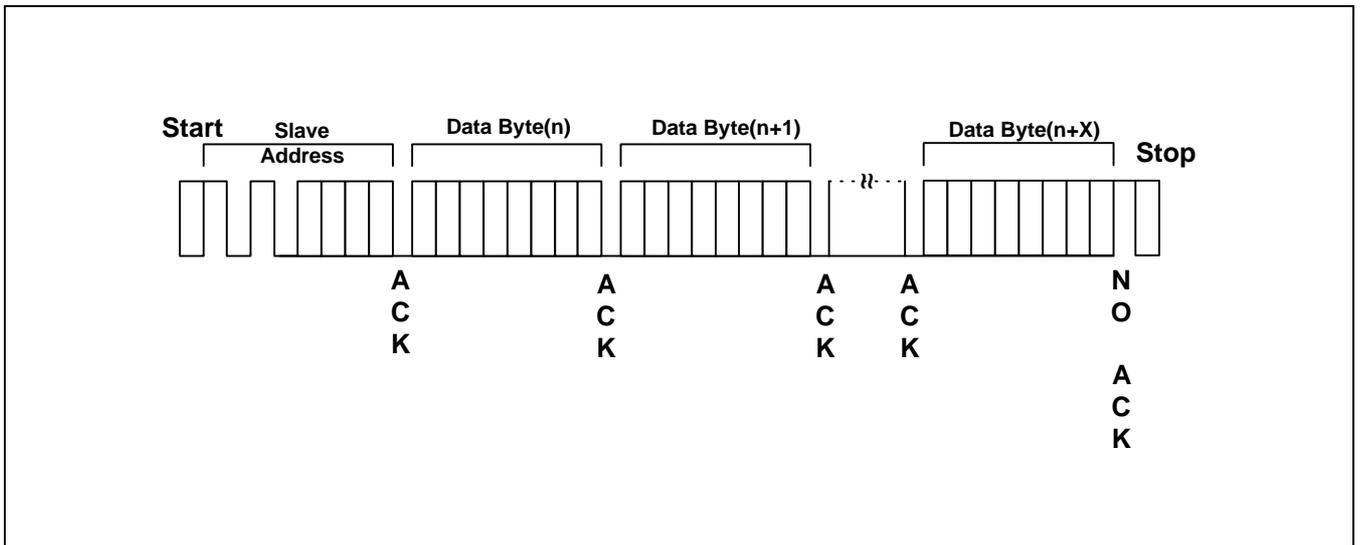

**Figure 3-13. Random Address Byte Read Operation**
5. The KS24L321/641 stops transmitting data and reverts to stand-by mode (see Figure 3-13).